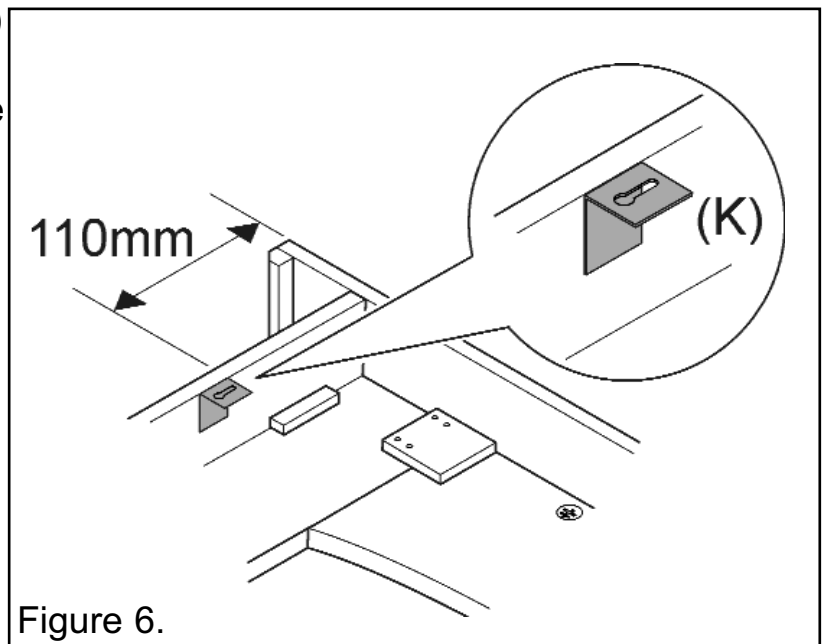

Figure 6.
- Place the wall fixing brackets (K) 110mm from the top of the surround as shown in figure 6. Secure in place using four (L) screws.